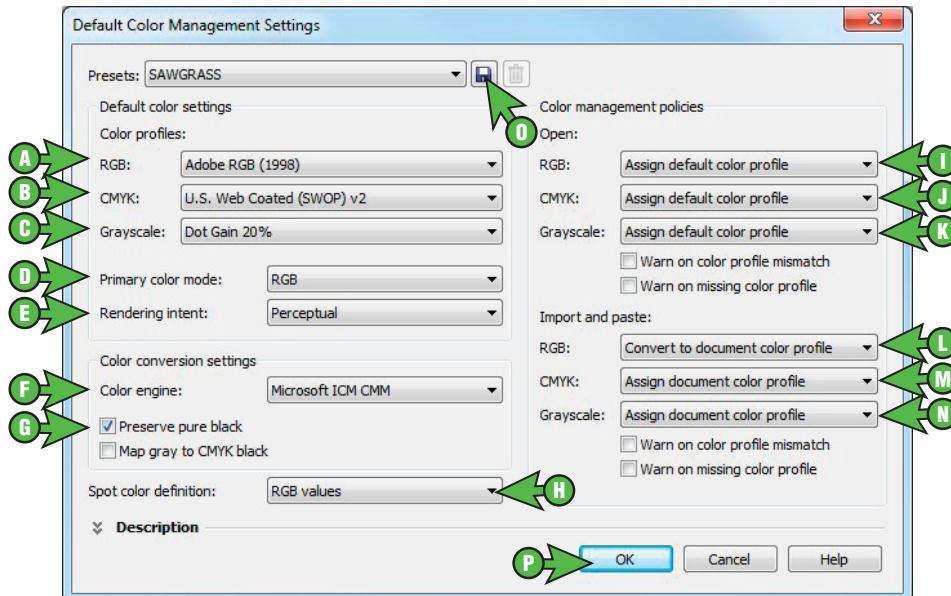

FIGURE 4
4.) In the Default Color Management Settings window, match your settings to those shown below (see FIGURE 4).